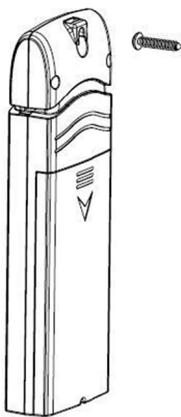

Figure 7
1. Use a screw or nail to affix the remote sensor to the wall, as shown in Figure 7